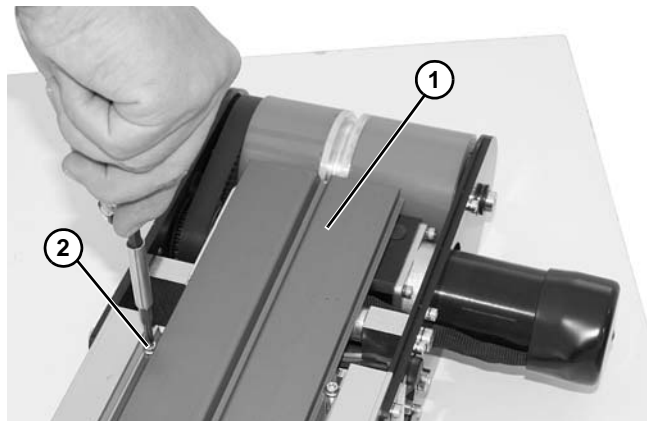

Figure 136
2. Remove wear plate (**Figure 136, item 1**) by removing plate fastening screws (**Figure 136, item 2**) on each side and end of conveyor